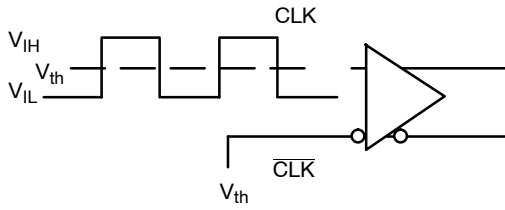

Figure 7. Differential Input Driven Single-Ended
**DIFFERENTIAL INPUT DRIVEN SINGLE-ENDED** (Figures 7, 10)